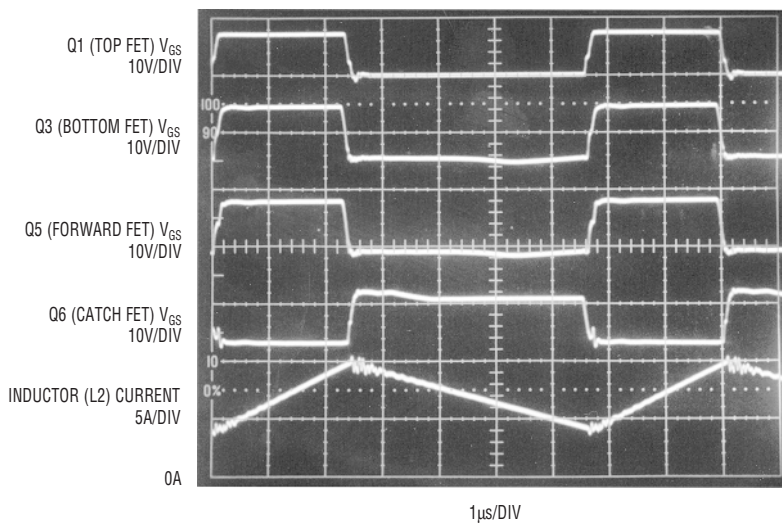
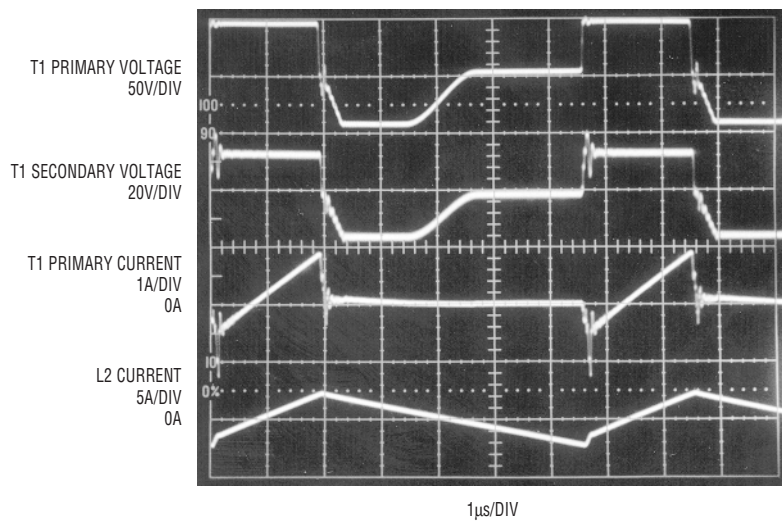

Figure 2. 48V in to 5V/7A gate voltage and inductor current waveforms
Figure 3. 48V in to 5V, no-load waveforms
The power stage is very similar to a synchronous buck converter. Energy is transferred to the output inductor and the load when the top (Q1), bottom (Q3) and forward (Q5) FETs are on and the catch FET (Q6) is off. During the second half of the cycle, the top, bottom and forward FETs are off and the catch FET is on, allowing T1 to reset and energy in the output inductor to be transferred to the load. Timing of the synchronous gate (SG) output guarantees that the catch FET is off whenever the primary (top and bottom) FETs are on. The full-load waveforms are shown in Figure 2. Synchronous operation allows the output inductor current to remain continuous with no load. Excess energy is returned to the input through T1 during the first portion of the cycle in which the negative inductor current rises towards zero (see Figure 3).